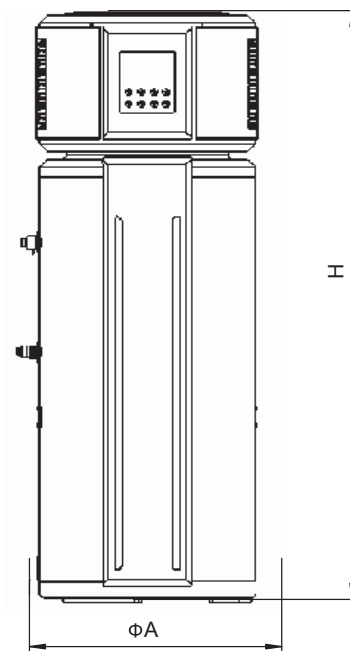

Fig.4.1
- Outline dimensional drawing(see Fig.4-1, Fig.4-2)